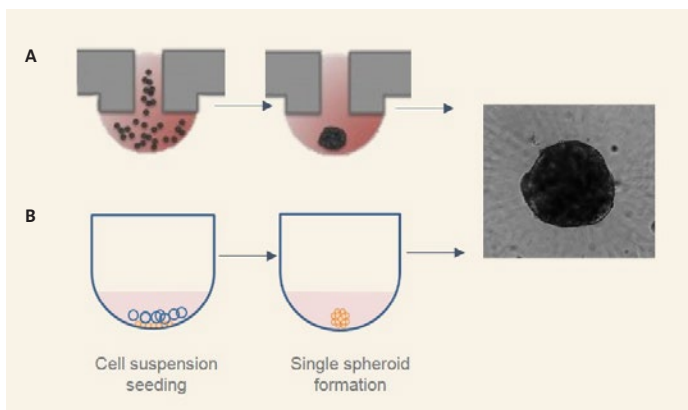

Figure 1. Spheroid formation in (A) hanging drop technique and (B) spheroid microplate with Ultra-Low Attachment surface coating.
Hanging drop technique (HD), as well as the proprietary Corning spheroid microplates with proprietary round well bottom geometry, and Ultra-Low Attachment surface coating promote self-aggregation of cells into a single spheroid per well (Figure 1). hLiMTs display uniform size of 350 µm diameter and shape across the two approaches that can be maintained for up to 4 weeks (Figure 2), with comparable high levels of CYP2D6 and CYP3A4 activity shown on day 28 (Figure 3).